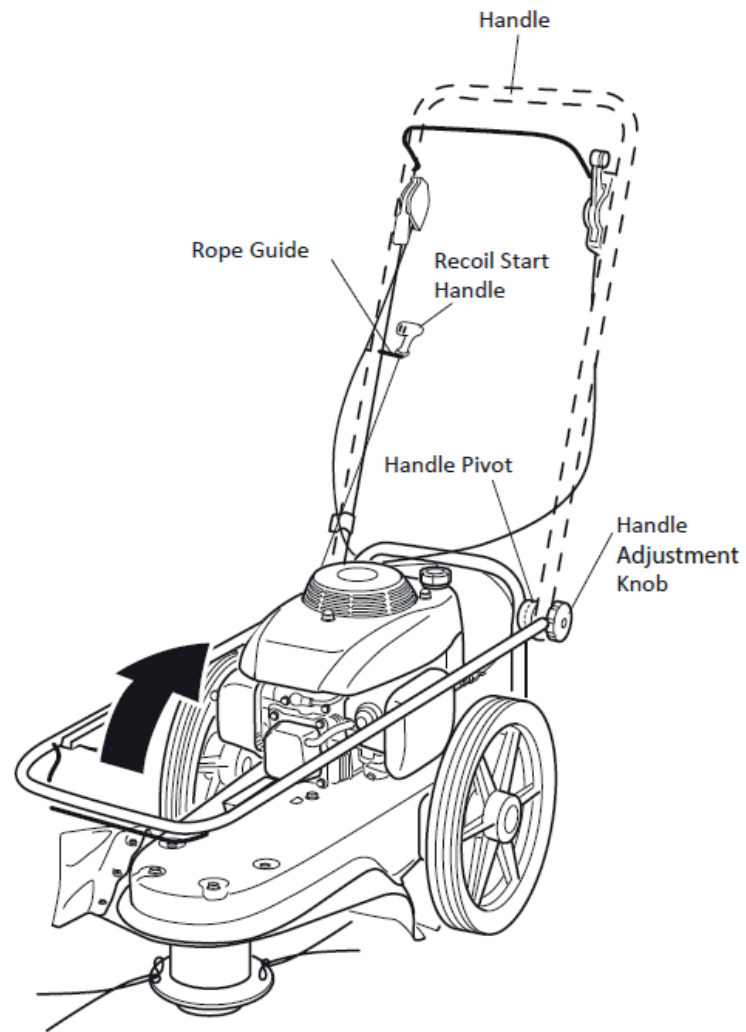

Figure 2
5.1.1 Hold the handle with one hand and loosen both handle adjustment knobs until the ratchet teeth are dis-engaged. DO NOT remove the handle adjustment knobs. (see Figure 2).